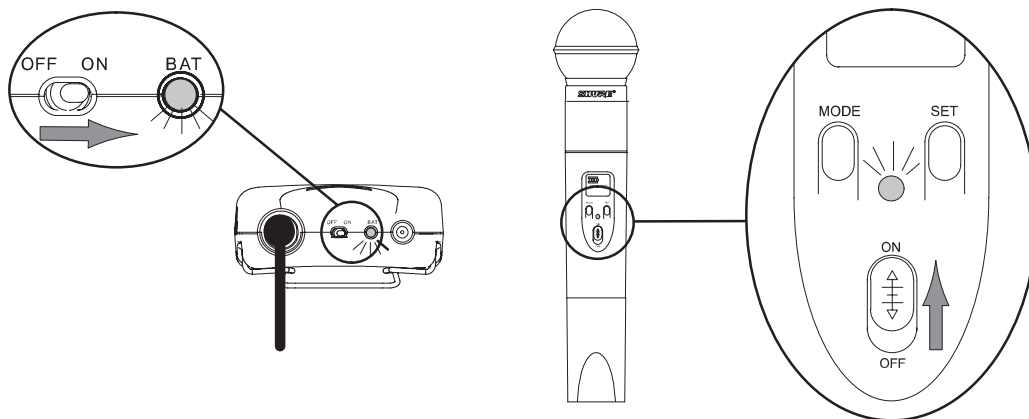

FIGURE 22
1. Slide the transmitter ON/OFF switch to the ON position, as shown in Figure 22. The power LED will momentarily glow red, then change to a steady green. The default frequency setting (Channel 1, Group 1) will appear on the display.